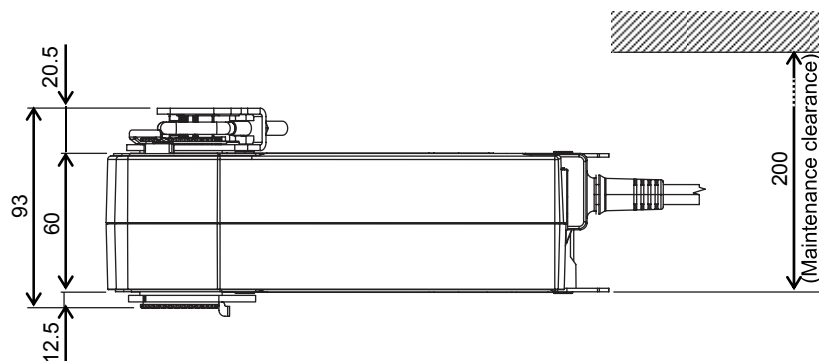

Figure 2. Dimensions and maintenance clearance (mm): Side view
- Leave clearance for maintenance as shown in Figs. 2 and 3. Besides, leave a clearance for a tool (e.g., torque wrench) to tighten the hexagonal nuts of the clamp.